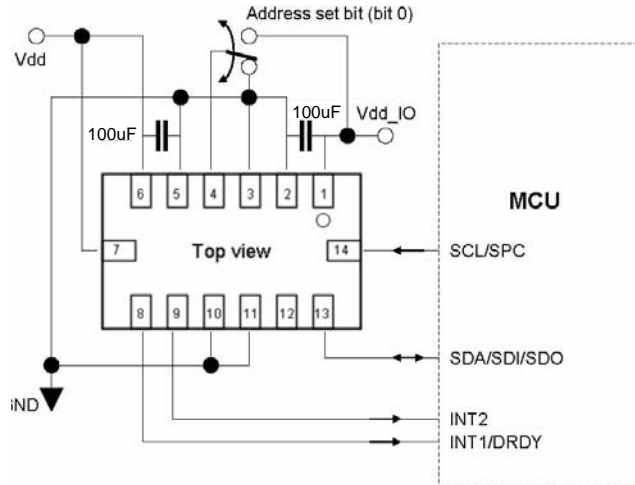
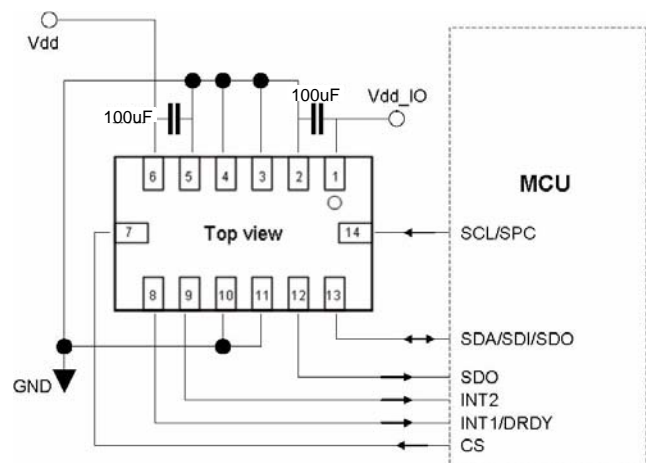

Figure 15. I²C Connection to MCU
Figure 16. SPI Connection to MCU
The MMA7450L also uses serial peripheral interface communication as a digital communication. The SPI communication is primarily used for synchronous serial communication between a master device and one or more slave devices. See Figure 16 for an example of how to configure one master with two MMA7450L devices. The MMA7450L is always operated as a slave device. Typically, the master device would be a microcontroller which would drive the clock (SPC) and chip select (CS) signals.
3. Place a ground plane beneath the accelerometer to reduce noise, the ground plane should be attached to all of the open ended terminals shown in Figure 15 and Figure 16.